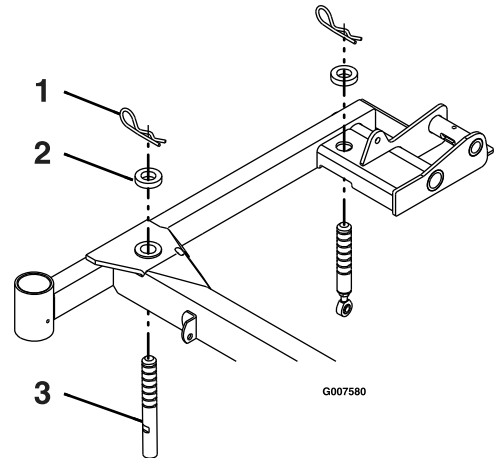

Figure 71
4. Verify that all hairpin cotters are in the 7.62 cm (3 inch) mower-deck-height holes with the spacers under the hairpin cotters (Figure 71).
5. Shorten or lengthen each mower deck support pin to obtain blade tip height of 7.62 cm (3 inches) at the front of the deck and 8.26 cm (3 1/4 inches) at the rear of the deck (Figure 71).